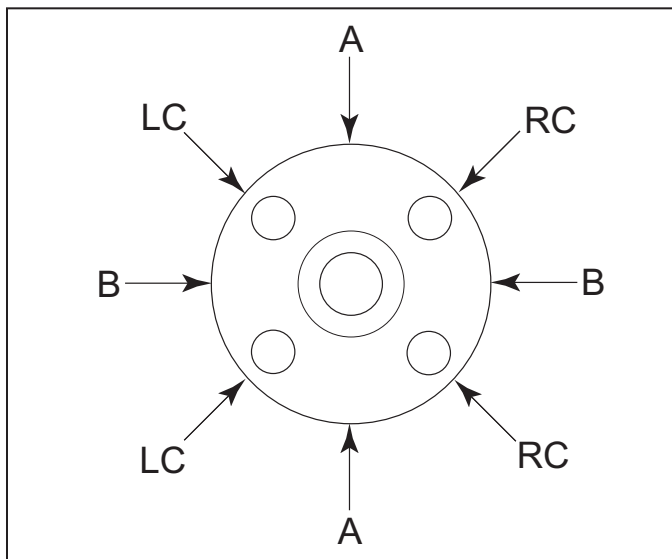

Figure 11-34 Angular Alignment Check
5. Check for any angular misalignment. Hold coupling faces tightly together by hand and check for a gap between the coupling faces, with a 0.003 in. (0.07 mm) feeler gauge, at 90-degree intervals. (Figure 11-34).
IMPORTANT: Angular misalignment conditions may require adjustment of one front mount, both front mounts, the trunnions, or any combination. Figure 11-34 (Angular Alignment Check) and the following table are to assist in the alignment process.
IMPORTANT: If a “pinch” occurs in the “A” quadrant (Figure 11-34), correcting the condition will require an equal adjustment on the front mounts. If a “pinch” occurs in the “C” quadrant, an adjustment will be made on the opposing front mount. If a “pinch” occurs in the “B” quadrant, a trunnion adjustment is required.